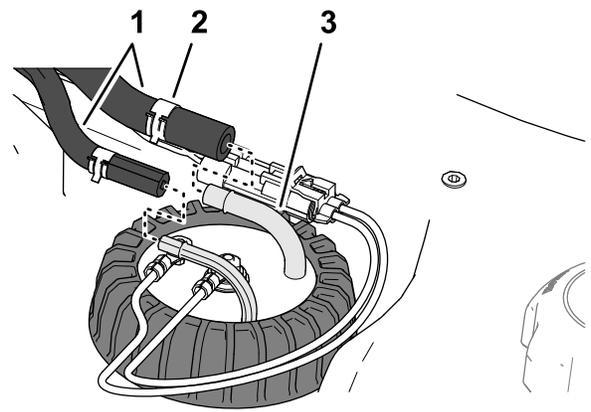

Figure 97
5. Assemble the hose onto the fittings of the fuel sender, and secure the hoses to the fittings with the clamps (Figure 97).